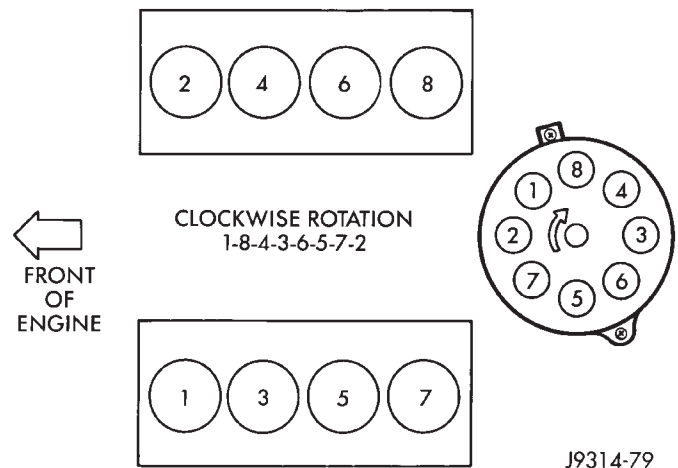

Fig. 4 Engine Firing Order—5.2L Engine
(1) Disconnect negative battery cable at battery.
(2) Remove coil high-tension cable and all spark plug cables at distributor cap. Note and mark position of cables (Fig. 4) before removal.
(3) Remove distributor cap from distributor (two screws).
(4) Disconnect camshaft position sensor wiring harness from main engine wiring harness.
(1) Install camshaft position sensor to distributor. Align sensor into notch on distributor housing.
(2) Connect wiring harness.
(3) Install rotor.
(4) Install distributor cap. Tighten mounting screws.
(5) Install spark plug cables in correct firing order (Fig. 4) to distributor cap. Be sure all spark plug cables are firmly connected into distributor cap towers.